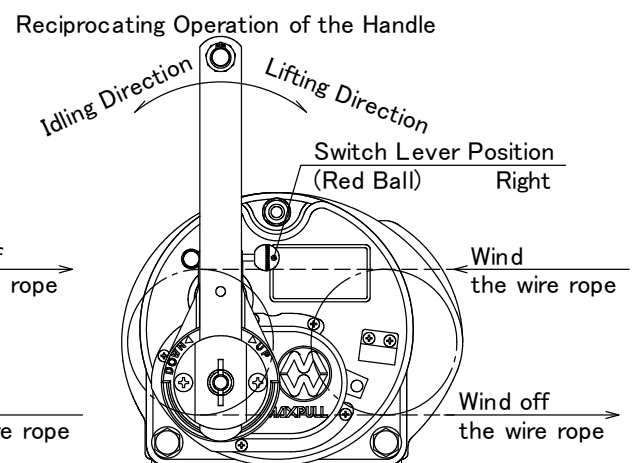

Figure 12 Switch Lever Position at Lifting Operation
- (2) When winding (Lifting) the wire rope around the drum, set the switch lever (red ball) to the right as viewed from the front of the winch as shown in the Figure 12.